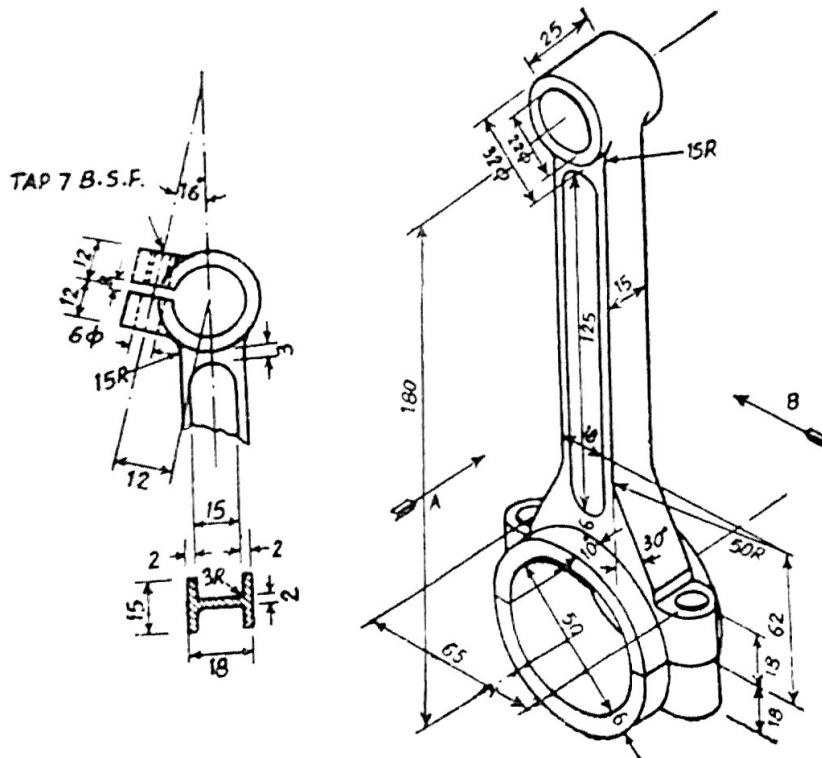

Fig. 3
- Instructions :** (1) Answer **all** questions.
(2) Use first angle projection.
(3) Assume any missing dimensions suitably.
5. Draw the full sectional front view in the direction B for the following connecting rod as shown in figure 3.